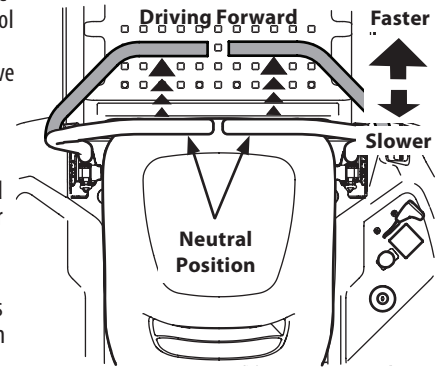

Figure 27
1. Slowly and evenly move both lapbar drive control levers forward. The tractor will start to move forward. See Figure 27.